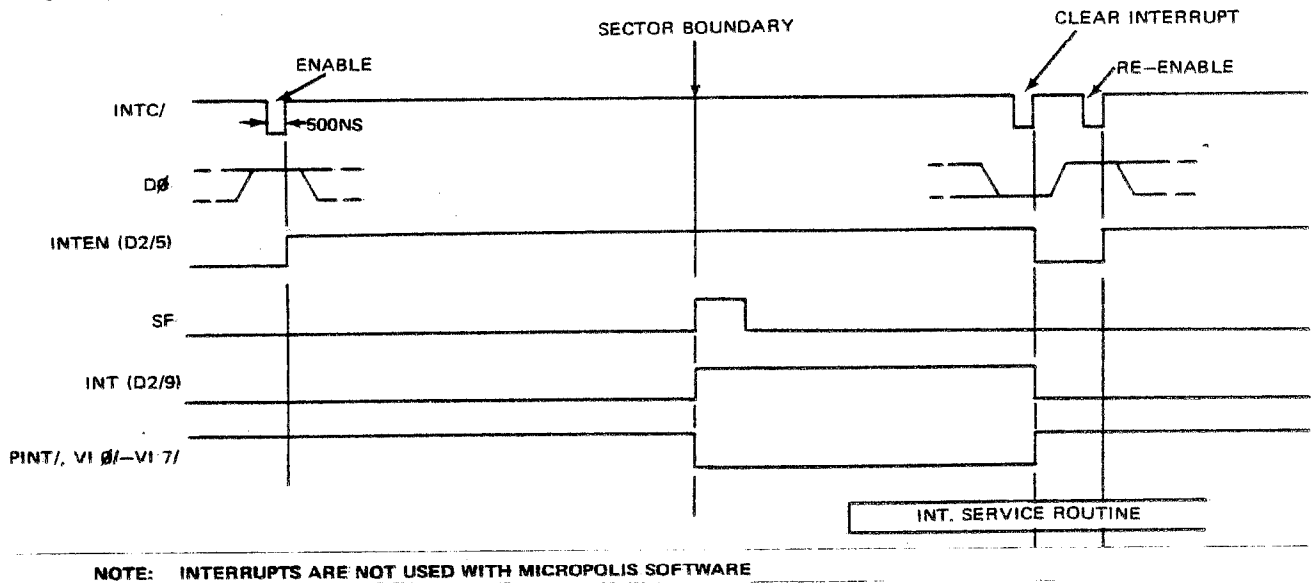

Figure 1-6. Interrupt Signals, Timing Diagram
When enabled, the interrupt control logic generates an interrupt as the sector flag (SF) goes high at each sector boundary. Figure 1-6 illustrates the timing of this circuit. The interrupt may be jumpered to PINT/ (processor interrupt) or one of the vectored interrupt lines V10/ thru V17/. The logic consists of interrupt enable flip-flop D2-5, interrupt flip-flop D2-9, and the driver D10-13.